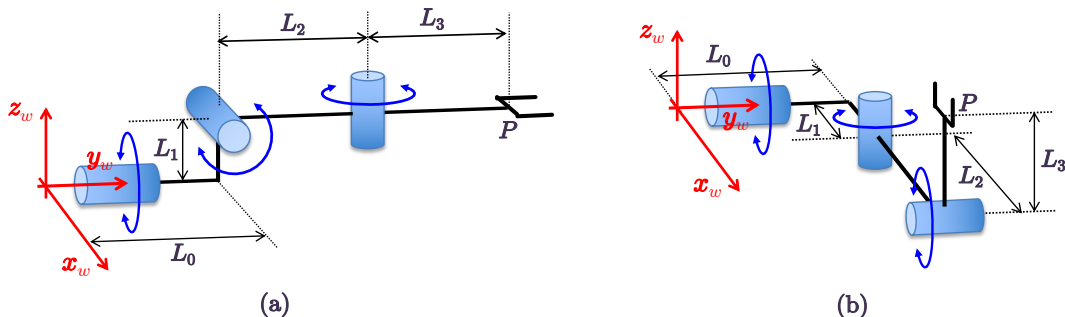
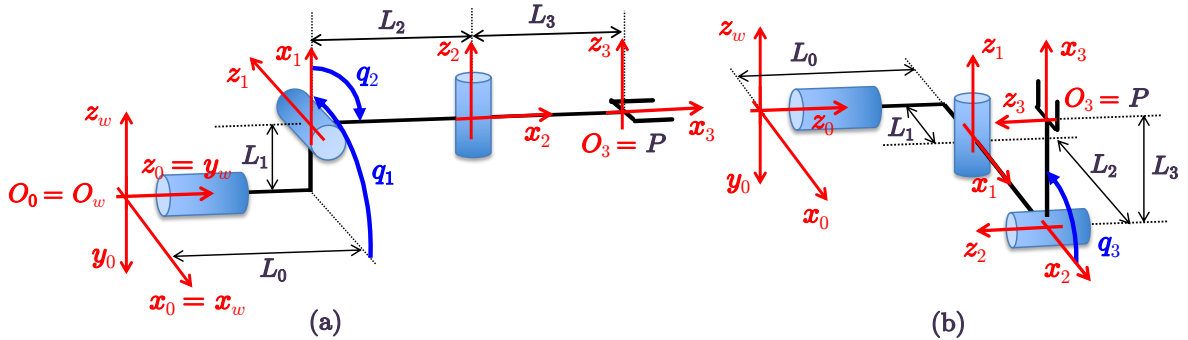

Figure 1: A spatial 3R robot in two different configurations \mathbf{q}_a (a) and \mathbf{q}_b (b).
Figure 5: Assignment of the DH frames for the spatial 3R robot, shown here for the two configurations \mathbf{q}_a and \mathbf{q}_b of Fig. 1.
Two views of a spatial 3R robot are shown in Fig. 1, together with the world reference frame RF_w . Assign the Denavit-Hartenberg frames and provide the associated table of parameters so that the configuration in Fig. 1(a) is $\mathbf{q}_a = (-\pi/2, \pi/2, 0)$ [rad] and the configuration in Fig. 1(b) is $\mathbf{q}_b = (0, 0, \pi/2)$ [rad]. The frame assignment must also include all four lengths $L_0, L_1, L_2,$ and L_3 defined in the figure. Compute the symbolic expression ${}^w\mathbf{p}(\mathbf{q})$ of the end-effector position P .
An assignment of the Denavit-Hartenberg (DH) frames is illustrated in the two configurations shown in Fig. 5. This assignment is consistent with the values \mathbf{q}_a and \mathbf{q}_b that joint variables should take in the configurations of Fig. 1(a) and (b). The associated set of DH parameters is given in Table 1. The origins of the DH frames 0 and 3 have been chosen coincident with the origin O_w of the world frame and with the end-effector position P , respectively. In this way, all four kinematic lengths $L_i, i = 0, 1, 2, 3$, appear in the DH table. The fourth and fifth columns in the table return the values of the joint variables for the two configurations \mathbf{q}_a and \mathbf{q}_b .